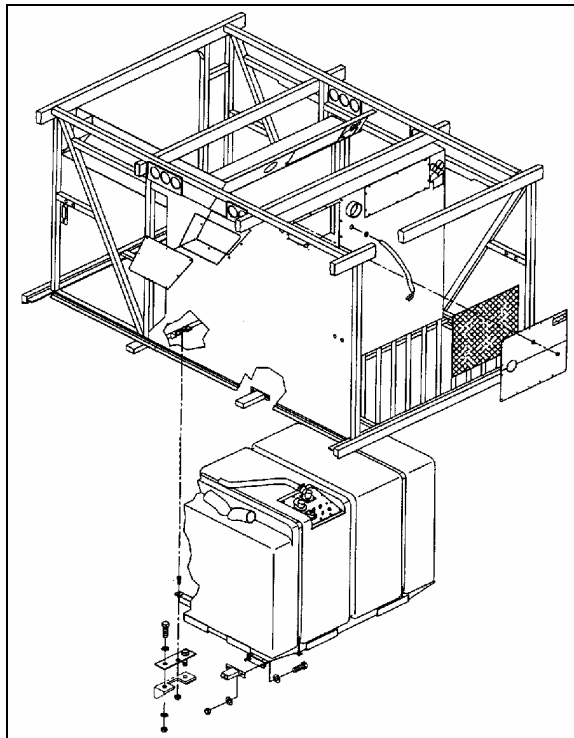

FIGURE 16: FUEL TANK INSTALLATION 03049
5. Place assembly in drill hole. Tighten screw by 10 complete turns. Refer to Fig. 16.